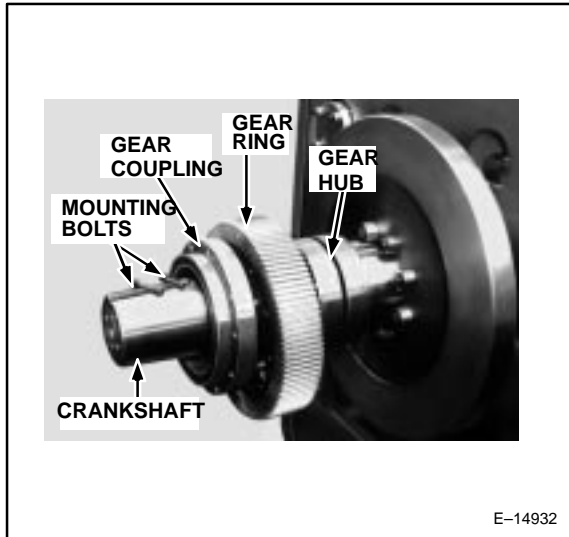

Figure 43. Pump Drive Gear Components.
The pump drive gear assembly is mounted on the crankshaft and is used to transmit the torque needed to drive the water and lubricating-oil pumps from the crankshaft to the pump idler gear. The assembly consists of three (3) basic parts: the gear hub, gear ring and gear coupling (Figure 43).